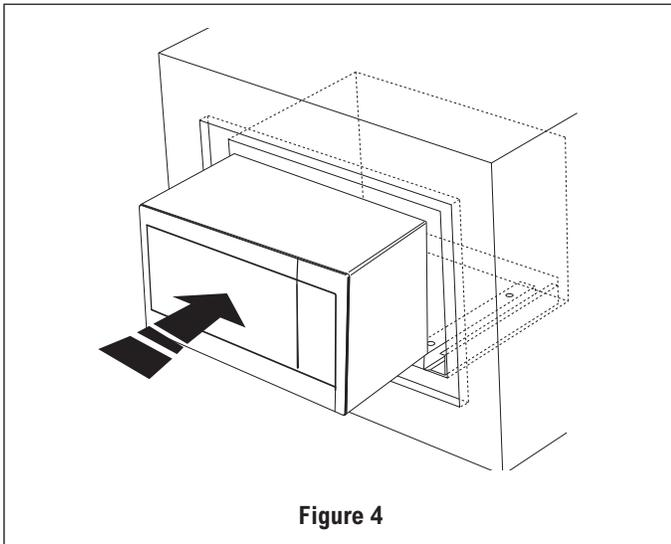

Figure 4
2. Carefully guide the assembled oven into the prepared opening. Slide the oven onto the EXHAUST DUCT ASSEMBLY. Avoid pinching the cord between the oven and the wall. See Figure 4.